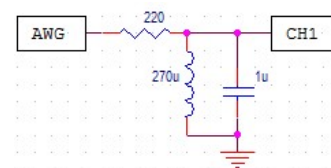

Figure 61: RLC Circuit
- 5) The display should look similar to figure 61.